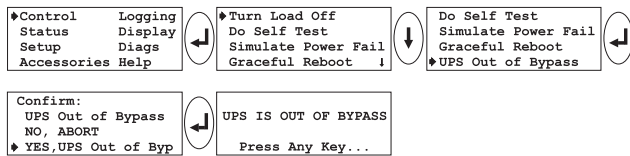

Fig 5-25 Return to On-Line Mode
- ❑ 11. Return the Symmetra™ to the On-Line mode of operation by following the screen sequence in figure 5-25.